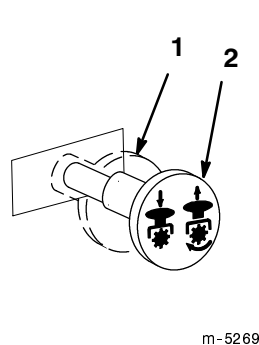

Figure 10
3. Move the PTO (power take off) switch to “OFF” (Fig. 10).